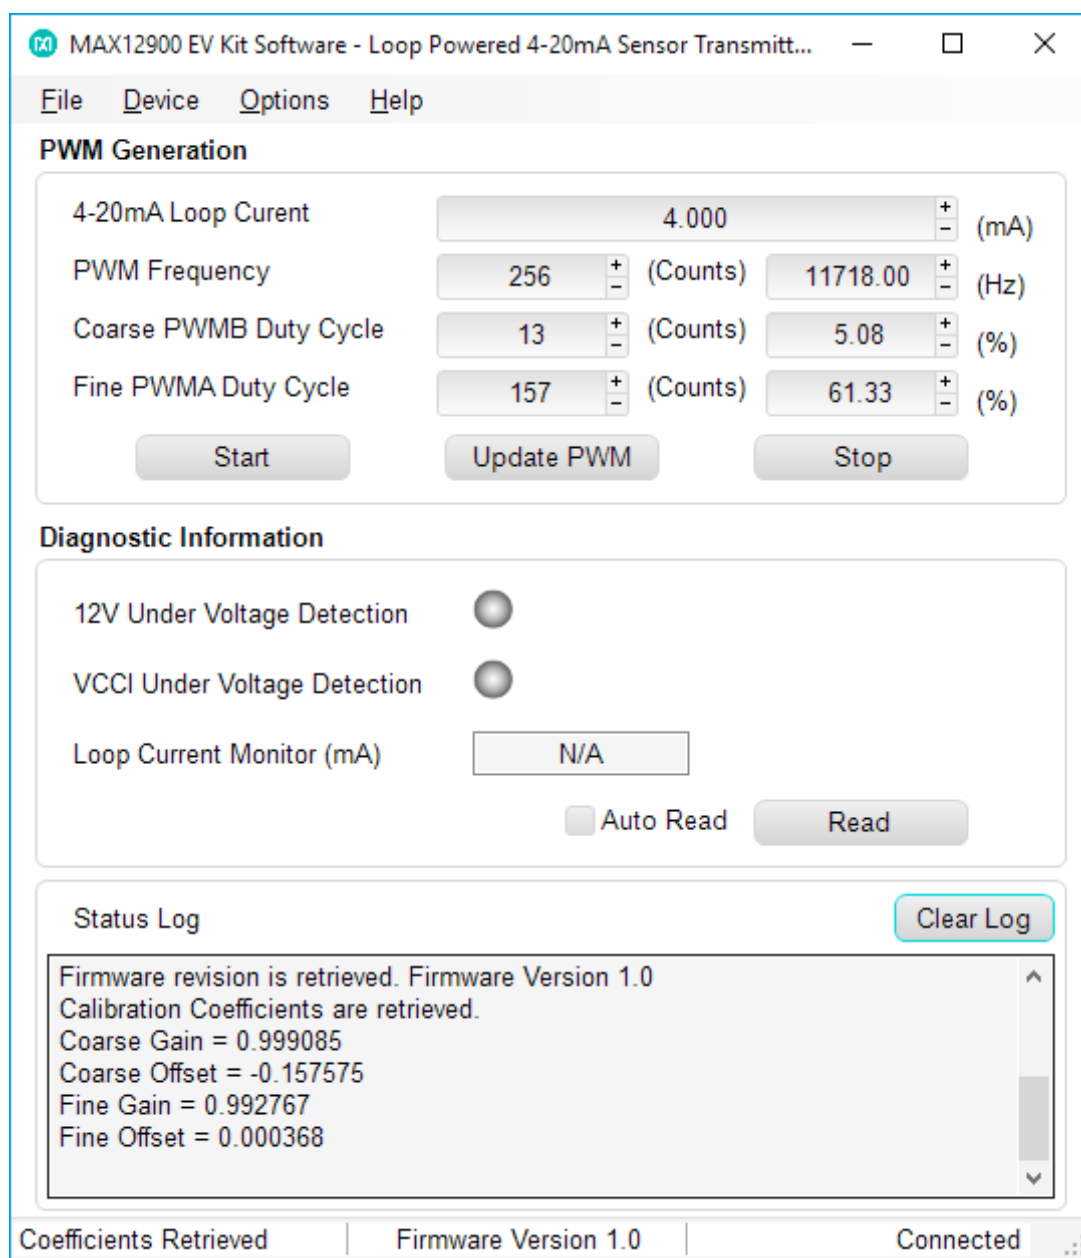

Figure 1. MAX12900 EV Kit GUI
- 6) Start the EV kit software by opening its icon in the **Start | Programs** menu. The EV kit software appears as shown in Figure 1. Verify that the lower-right status bar indicates the EV kit hardware is **Connected**. The GUI automatically detects EV kit is connected to the PC, and enables communication with the on-board microcontroller. It also retrieves calibration coefficients from the onboard microcontroller EEPROM and indicates them in the Status Log window.